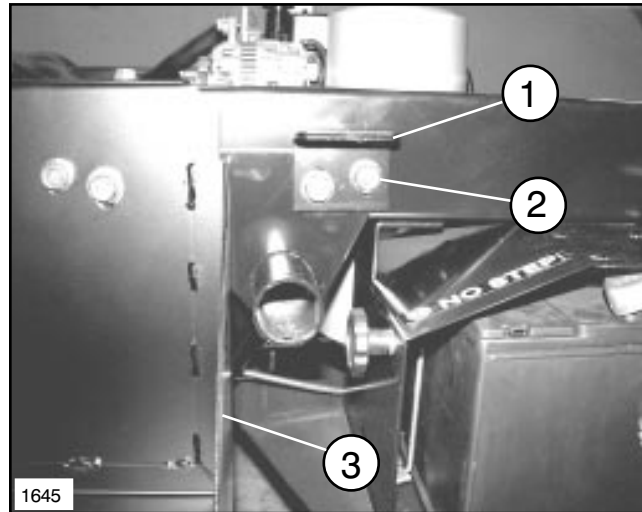

FIG. 5
3. Remove the four existing (two each side) 1/2"-16 x 1- 1/4" Lg. Flange Lock Hex. Hd. Cap Screws in the Workman® unit. See FIG. 5. Install two (99-2667) Attachment Mount Brackets by using the same four 1/2" Flange Lock Hex. Hd. Cap Screws and 1/2" Flange Lock Nuts that were removed. Finger tighten screws and nuts.